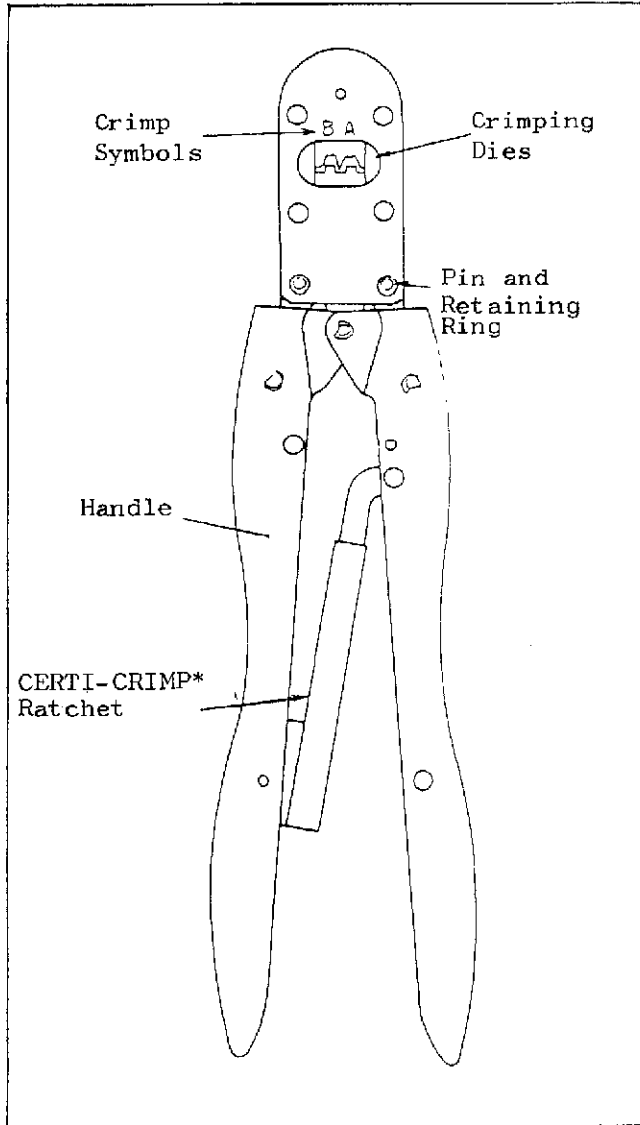
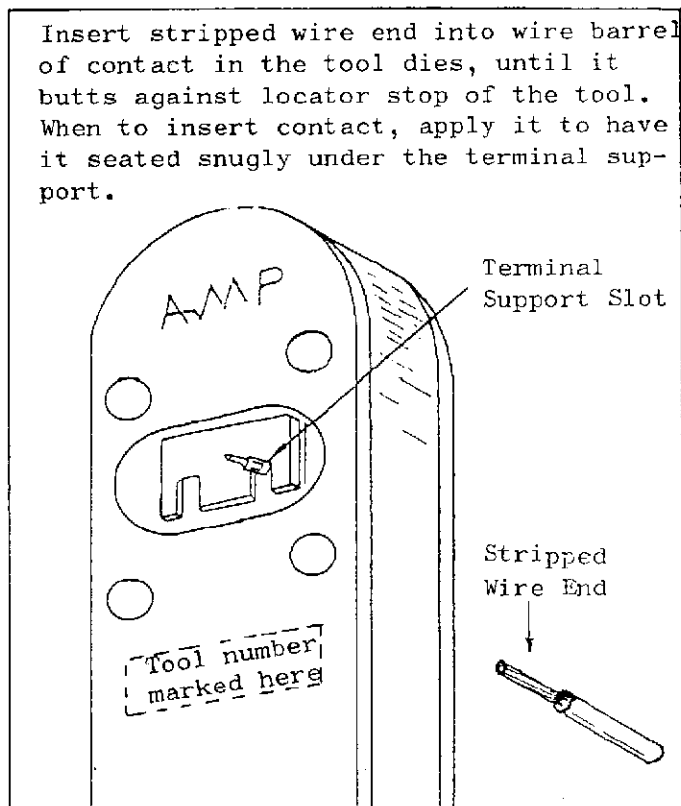

Fig. 1
Fig. 4
- a) Hold the tool so the FRONT of it is facing you. FRONT of tool is the side where "AMP" and tool number are marked. (See Fig. 1 and Fig. 4.)